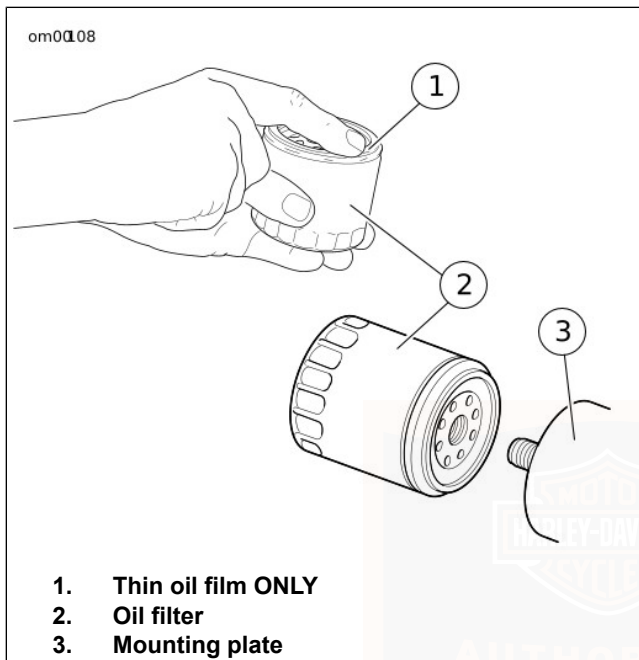

Figure 42. Applying Thin Oil Film
2. See Figure 42. Wipe filter gasket contact surface of oil filter mount with a clean cloth. Surface should be smooth and free of any debris or old gasket material.
3. Apply a thin film of oil to gasket contact surface on crankcase (3), gasket and **new** oil filter.